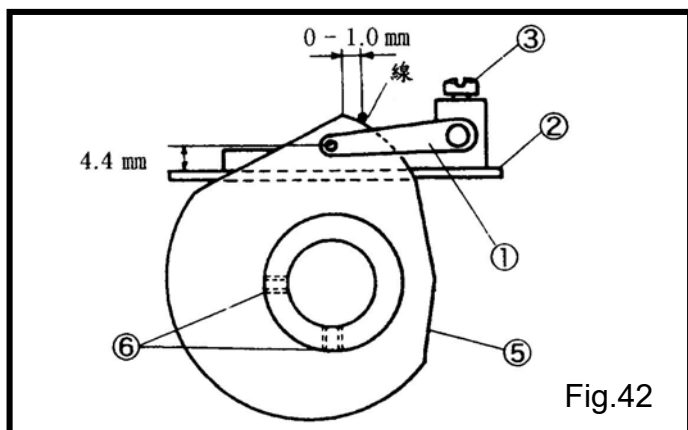
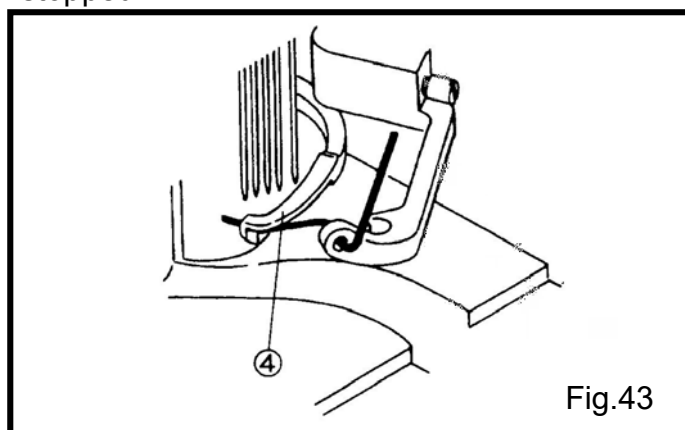

Fig.42
Fig.43
支撐板②和過線片①的標準距離是4.4mm。放鬆螺絲③再上下調整移動線孔。(Fig.42)
- 增加線量時，將過線片①往下移。
- 減少線量時，將過線片①往上移。
當大的上勾針④勾到小勾針上的線時(Fig.43)，網線和凸輪的尖端距離為0-1.0mm之間，調整凸輪⑤時鬆開螺絲⑥。(Fig.42)
Make the standard distance from the top the eyelet supporting plate② to the thread take-up eyelet① eye to 4.4 mm. Loosen the screw③ and move the eyelet① up or down to adjust it.(Fig.42)
- To increase the top cover thread take-up amount, move the eyelet① downward.
- To decrease the top cover thread take-up amount, move the eyelet① upward.